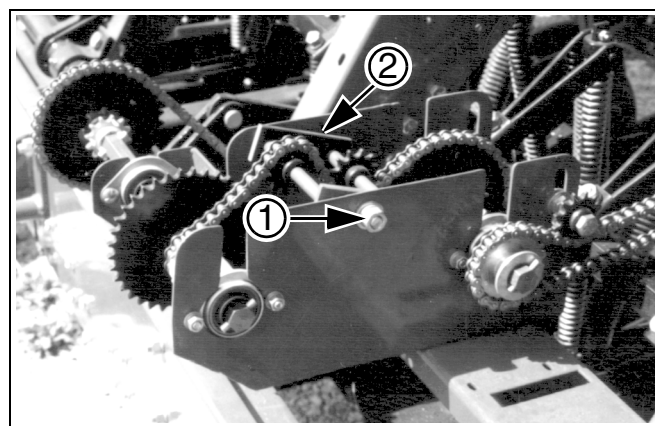

Figure 8
1. Refer to Figure 8. Loosen the nut (1) holding the idler arm (2) and turn arm so chain is slack. Remove chain from sprockets.